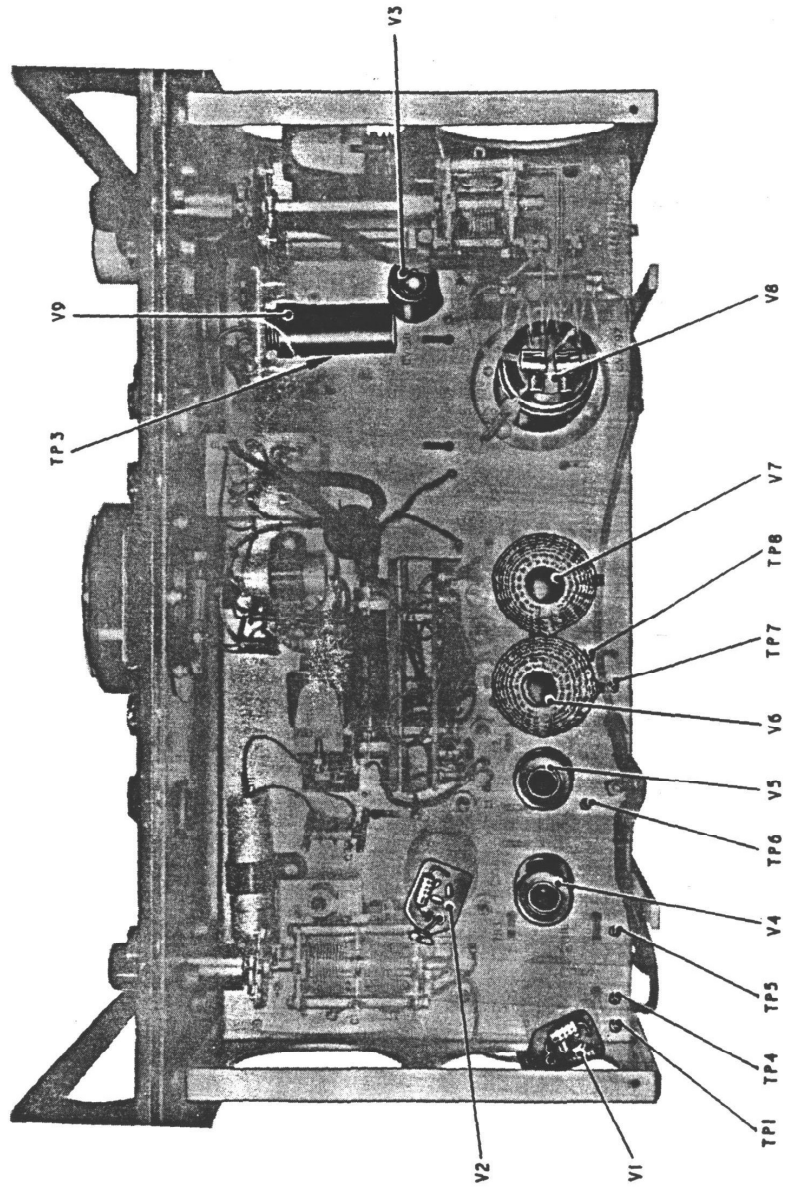

FIG.18 TRANSMITTER RF UNIT
- 3) Figs. 18 and 20 show the positions of the valves and test points, and Tables 8 and 9 the voltages to be expected at these points.